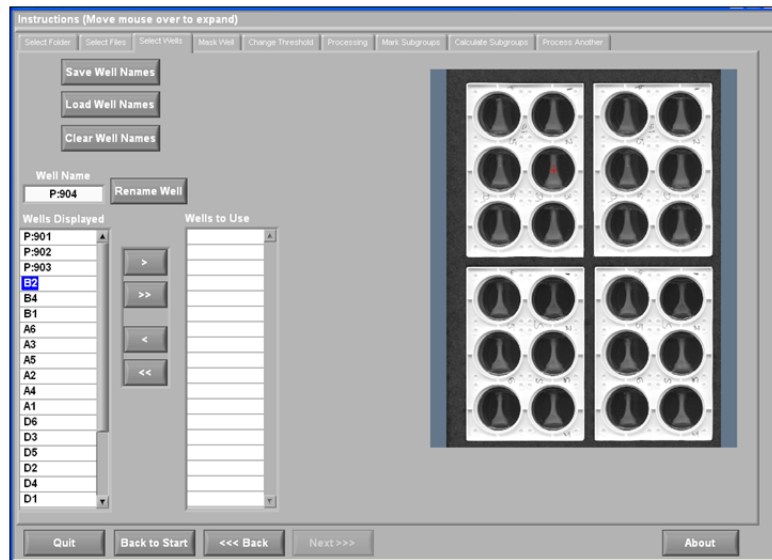

Figure 22. Selecting the individual wells to analyze
- 1) The *SELECT WELLS* screen (**Figure 22**) displays the default labeling of the *WELLS DISPLAYED* for the 6-well plate. The user may alter the *WELL NAME* by typing a new name in the window and selecting *RENAME WELL*. The highlighted well name in the *WELLS DISPLAYED* column will change as a result.